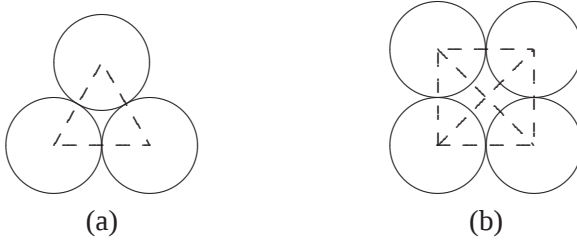

FIGURE 34
- (a) Three equal strands as shown in Figure 34(a)
- (b) Four equal strands as shown in Figure 34(b)